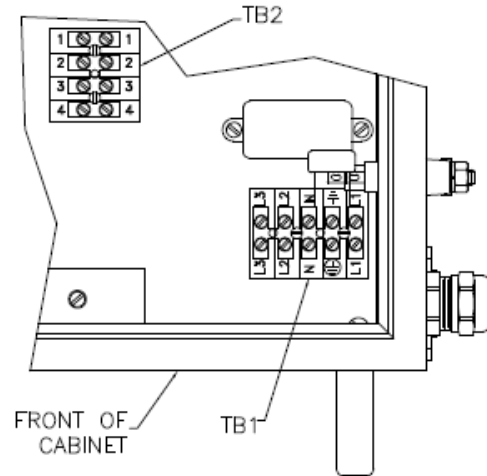
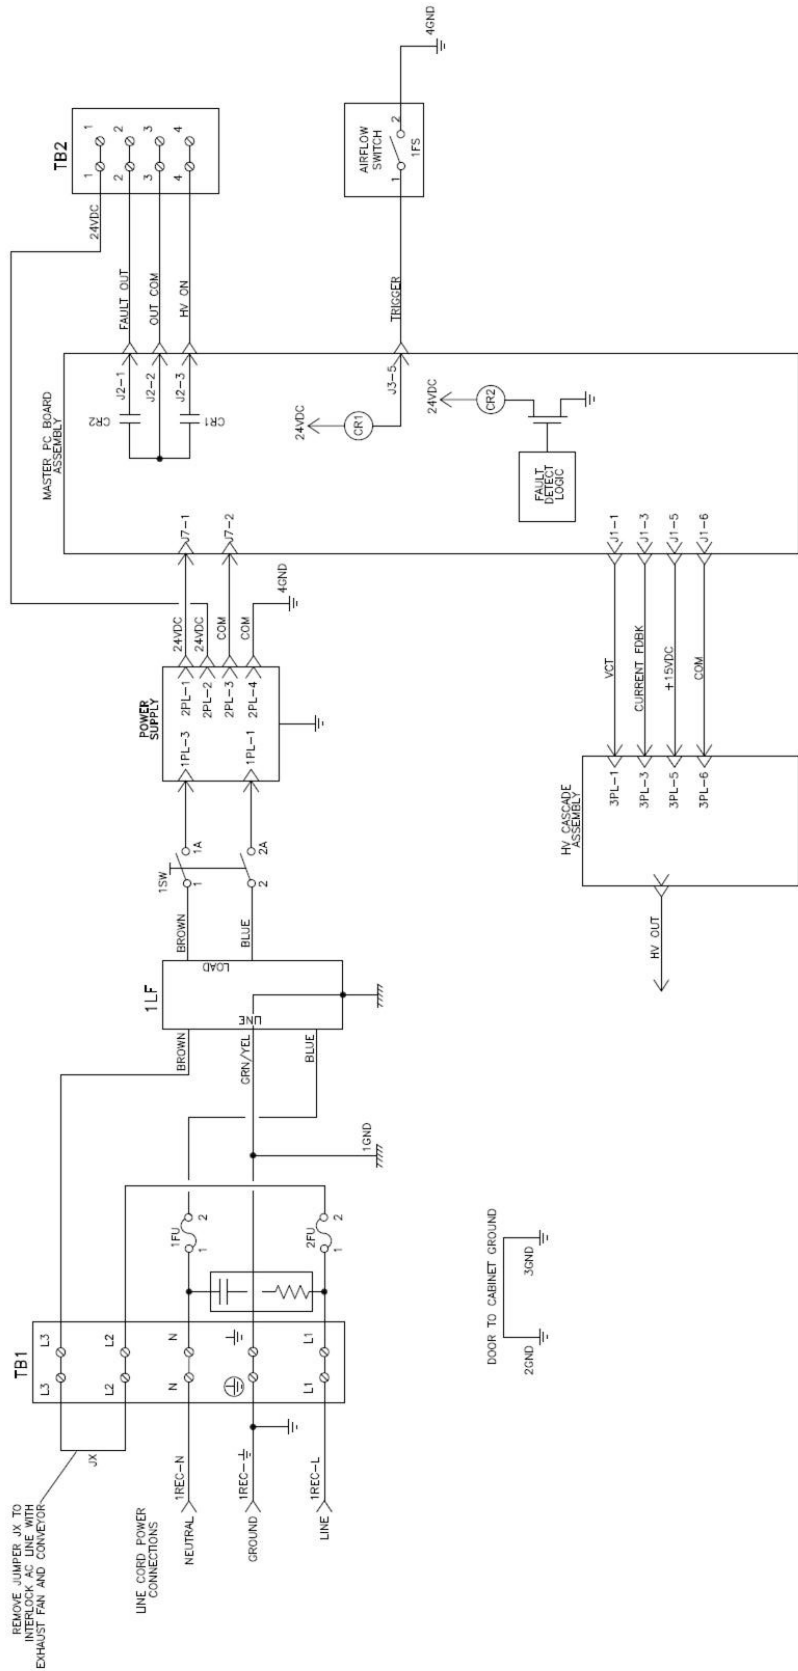

Figure 9: Location of TB1 & TB2 in Controller
Figure 12: Controller Schematic
1. **Ensure the AC line cord is unplugged** and remove the AC inlet receptacle wiring from TB1-N, TB1-L1 and TB1-EARTH GROUND (See Figures 9 and 10).
4. Using a shielded cable for the interlock wiring (supplied by user), route through the interlock connector on the side of the 9060 Controller and terminate TB1-L2 and TB1-L3 as shown in Figure 12. The shielded cable must have a minimum rating of 300V
A set of relay contacts for high voltage (CR1) and fault (CR2) conditions is provided at 2TB-4 and 2TB-2 (See Figure 9). One end of these relay contacts are connected together and also connected to a source input terminal 2TB-3 (See Figure 12). When a source voltage is present at 2TB-3 and either the high voltage is on or a fault condition occurs, the source voltage will become available at the output end of the corresponding contact. Maximum contact ratings for the relays are as follows: